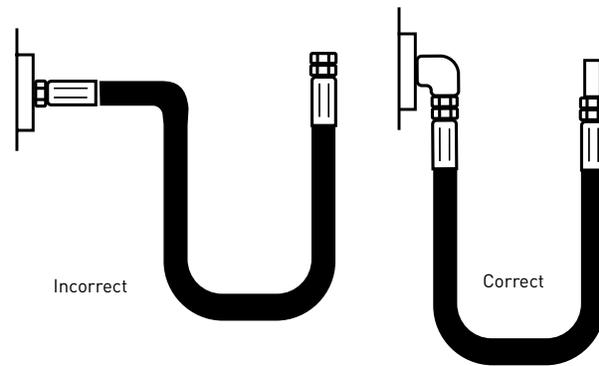

FIGURE 2 — ELBOWS AND ADAPTERS
**5.22 Elbows and Adapters** – In special cases, use elbows and adapters to relieve hose strain (see Figure 2).